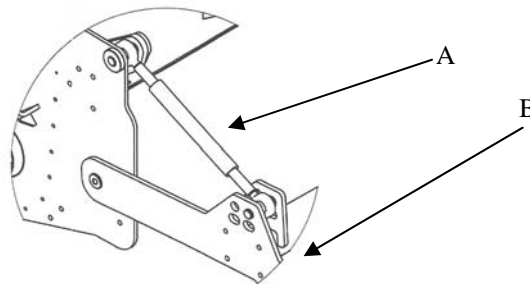

Fig. 15
Tillage depth is regulated by a rear mounted crumple roller (Fig.15) illustrates the attachment of the crumple roller. The mounting arm position (B), is regulated by changing the length on the top link (A) Ensure that all 4 top links A are in the same point in arm B and that have the same length.